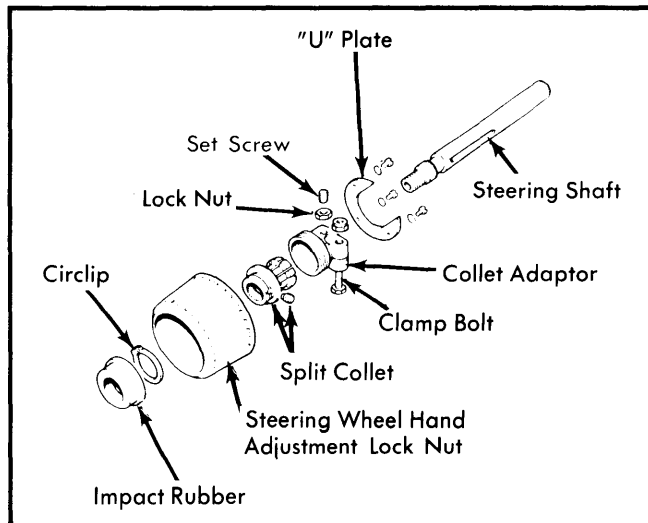

Fig. 1 Components Located Behind Steering Wheel XJ6 and XJ12 Models
3) Working from below, remove clamp bolt securing split collet adaptor (Fig. 1) to steering column. Loosen lock nut on set screw and loosen set screw 2 turns.